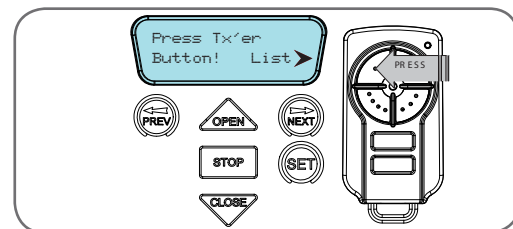

fig 33
3. Press the transmitter once (Fig. 33).